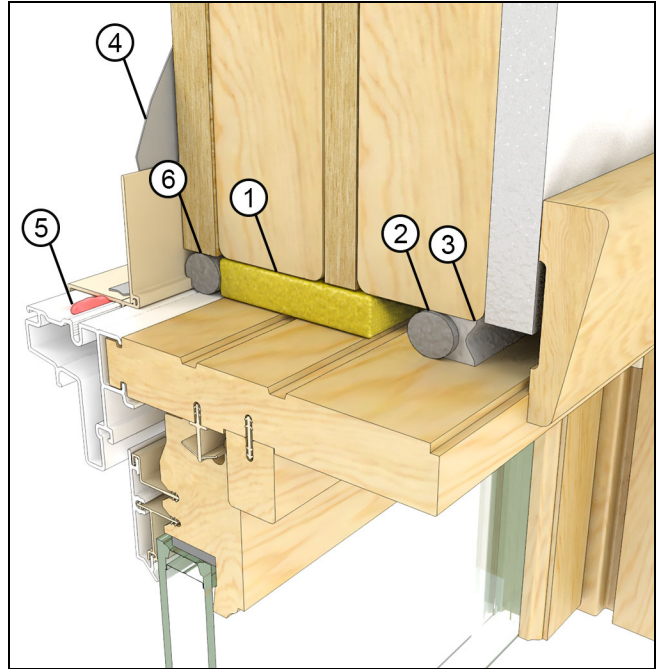

Figure 60
**2. Low Expansion Foam.** Install a backer rod at the exterior plane of the RO. Apply a low expansion/low compression closed cell foam in the cavity. Install a backer rod and sealant at the interior plane of the RO to create a continuous air seal. See Figure 60.